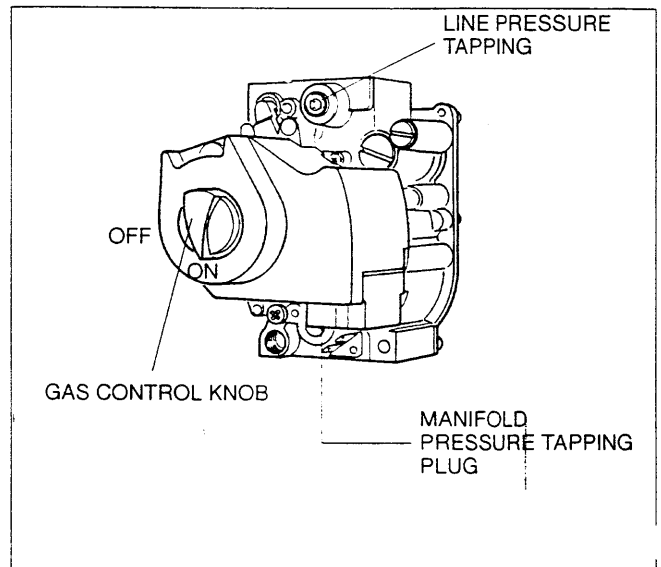

Fig.2
Turn the gas control manual valve clockwise  to the full "OFF" position, fig. 2.
32. Shut off the main gas supply shut-off valve. Remove the line pressure tapping plug from gas control, fig. 2; install a test fitting, and hook up a manometer so that line pressure can be checked.
33. Remove the manifold pressure tapping plug from the gas control, install a test fitting and hook up a manometer so that manifold pressure can be checked, fig. 2.